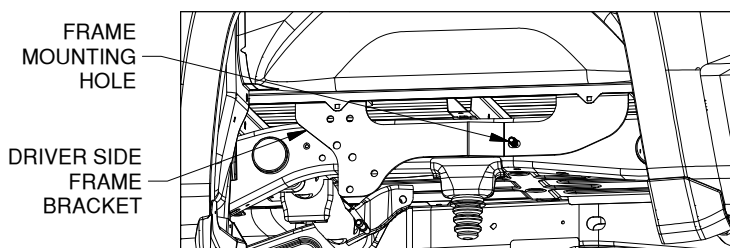
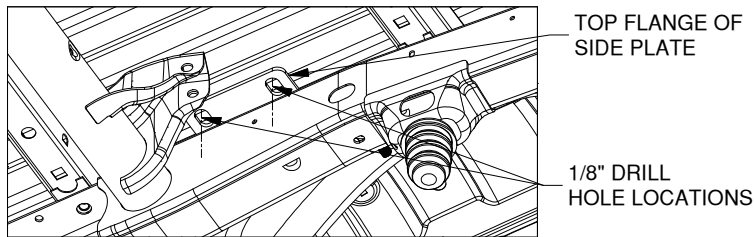

Figure C4: View looking into driver side wheel well.
Figure C5: View under bed looking up at drilled area and side plate.
- 3. Check hole locations.** Using the side plates, align each bracket to the side of the frame where the side plates will be installed, see Figure C4. Check that the 1/8" holes are centered within the slots in the side plates, see Figure C5. If the 1/8" drilled holes are not centered re-drill the 1/8" holes until the side plates and the drilled holes are aligned.